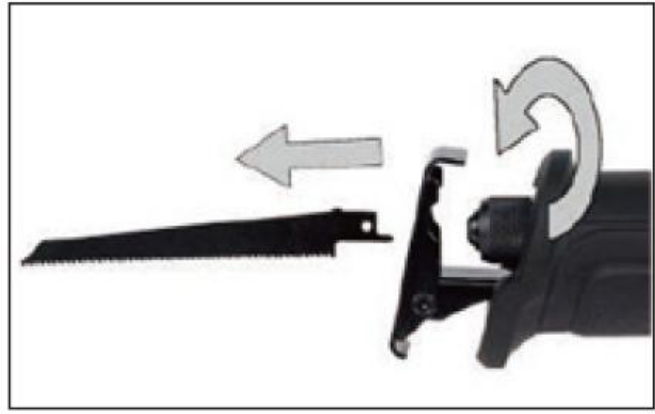

Fig. 3
- b) Turn the quick-release blade clamp (6) anticlockwise to remove the saw blade.(Fig. 3)